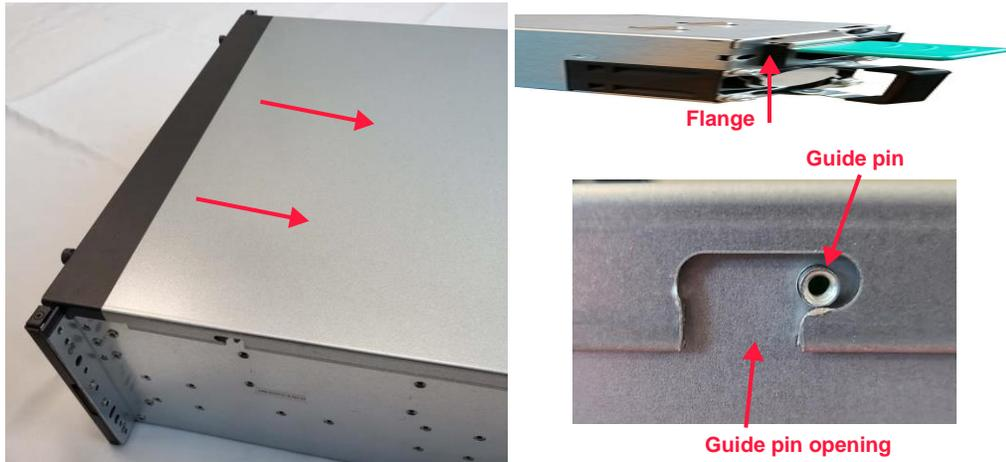

Figure 6.20 Top cover reinstallation
1. Align the top cover with the chassis. Ensure that the six guide pins (three on each side of the chassis) are aligned with the guide pin openings (three on each side of the cover), and that the flange on the enclosure rear is properly aligned to the rear edge of the cover. See Figure 6.20.